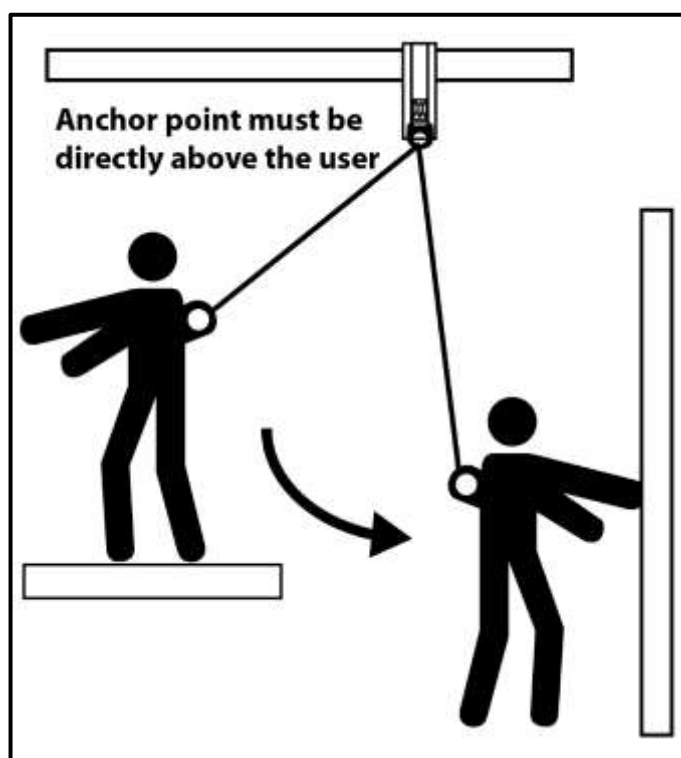

Fig 3.
- 1) To minimize the possibility of a swing fall hazard, install the device directly over the work area (see fig 3, page 7.)
- 4) A single SRD may also be attached to the back D-ring of the full body harness using the supplied carabiner. One (1) or Two (2) SRDs may be attached to the back of the harness below the dorsal D-ring using the supplied universal SHC connector.